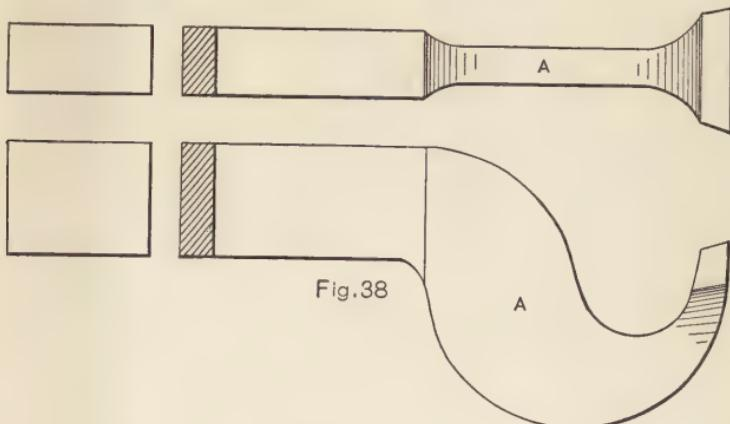

Fig. 38
**Finishing Tools.**—For cast iron there is no better tool for finishing than the one shown in Fig. 38. It should be made quite thin and wide at *A* and the cutting edge should not be more than  $\frac{3}{8}$  inch above the bottom of the bar and should be tempered quite hard. There is no tool that will make a better finishing cut on cast iron than this one.